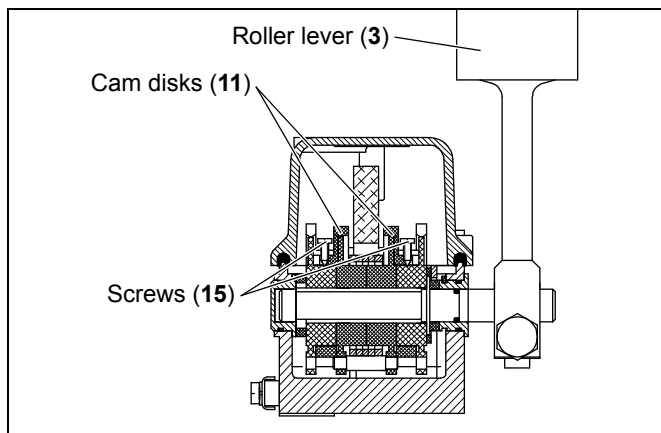

Fig. 5-10: Adjusting the switch points – Loosening screws in the cam disks
There are two screws (15) in each of the two cam disks (11) (see figure 5-10, page 24). With one screw (15), the cam disk (11) is fixed in its basic setting. The second screw (15) is screwed into the cam disk (11).